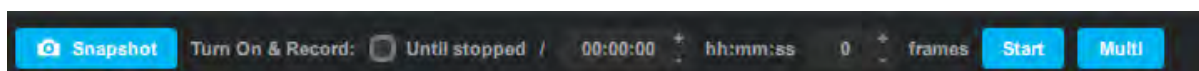

Figure 11.12.6: Figure: Widefield/TIRF camera acquisition settings panel in Bluelake.
5. The top bar in the camera view offers options for camera acquisition (see Figure 11.12.6). Going from left to right there is the **Snapshot** button that allows a user to take a single snapshot with the current camera settings. This data is saved as a .tiff file to the current data output folder set in Bluelake.